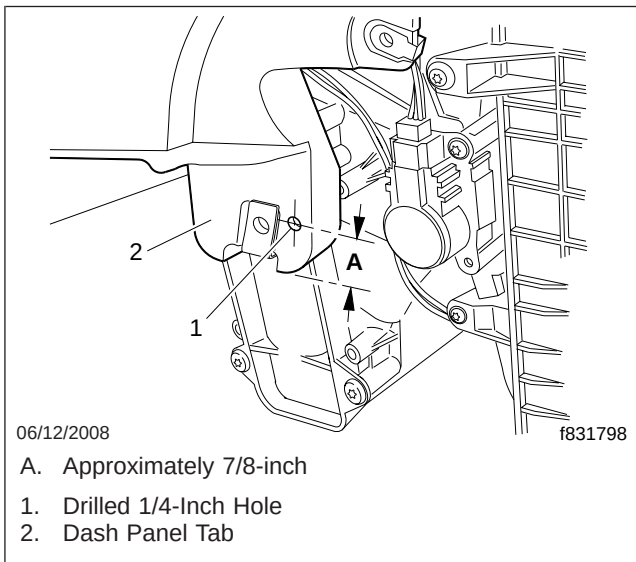

Fig. 3, New Hole Location
4. If not already done, drill a 1/4-inch hole in the dash tab to gain access to the upper right-side floor duct fastener. See Fig. 3 for the approximate location of the hole.